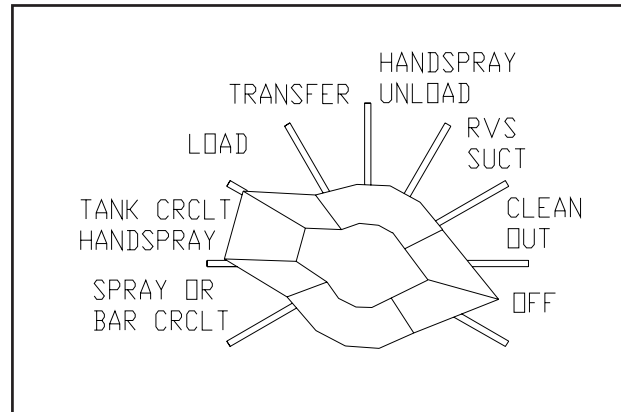

FIGURE 3-2. MODE SELECTION SWITCH
3. Be sure the Mode Selection switch is OFF (Figure 3-2).